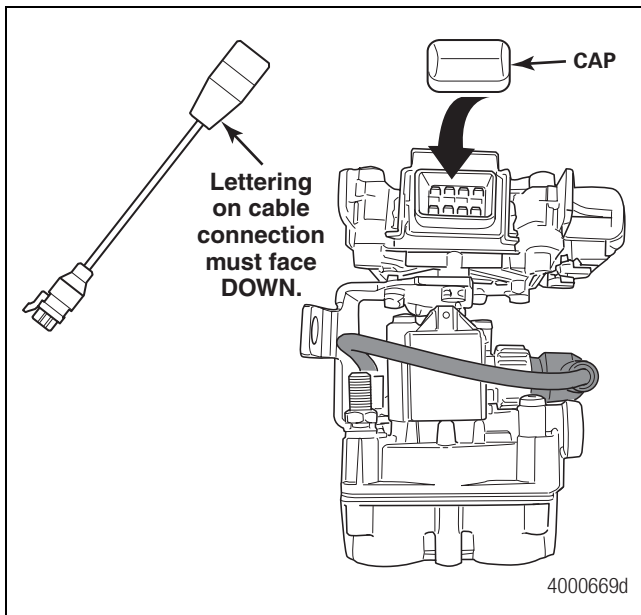

Figure 21
1. Connect the power cable to the ECU/single modulator valve assembly using the Meritor WABCO power connector. Figure 21.